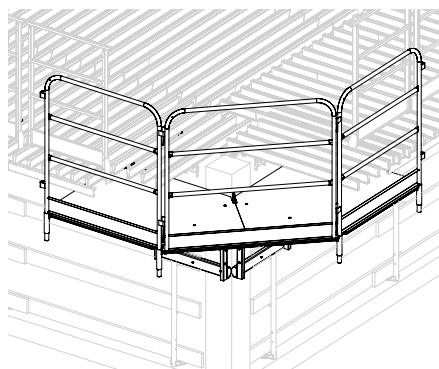

Fig. A9.07
3. Insert the platform guardrails (9.2) and connect them to each other. (Fig. A9.07/A9.08)